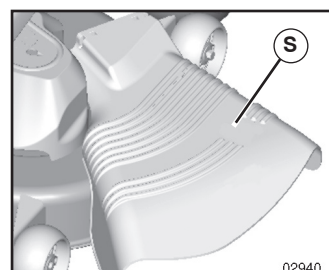

Fig. 13
**CAUTION: Do not operate the mower without either the entire grass catcher, on mowers so equipped, or the deflector shield (S) in place (See Fig. 13).**